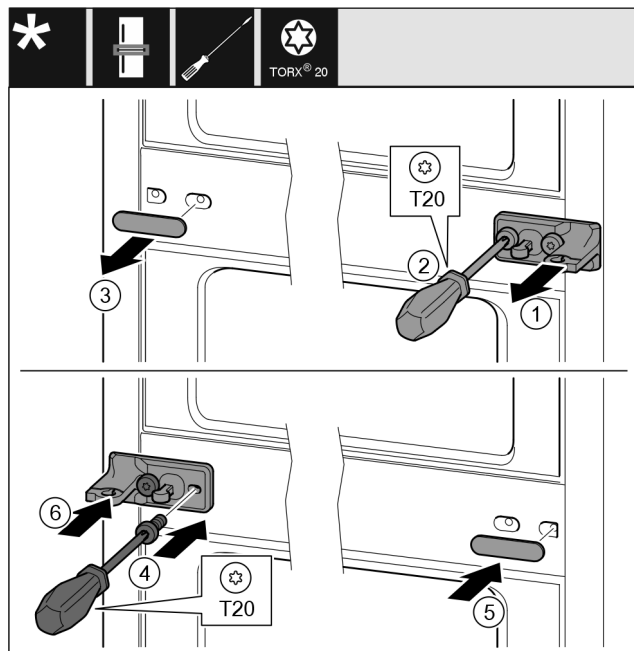

Fig. 31
- Remove the washer. Fig. 31 (1)
- Remove the screws with the T20 screwdriver. Fig. 31 (2)
- Remove the cover carefully. Fig. 31 (3)
- Screw the bearing bracket and the film rotated 180° firmly onto the other side. Fig. 31 (4)
- Attach the cover rotated 180° onto the other side. Fig. 31 (5)
- Push the washer in from the front. Fig. 31 (6)